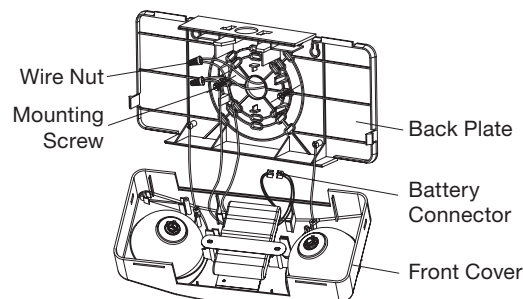

FIG.2
#### Wall Mount-Back Power Feed (see Fig. 2)
7. Plug battery male connector into battery female connector on PCBA. (see Fig. 2)